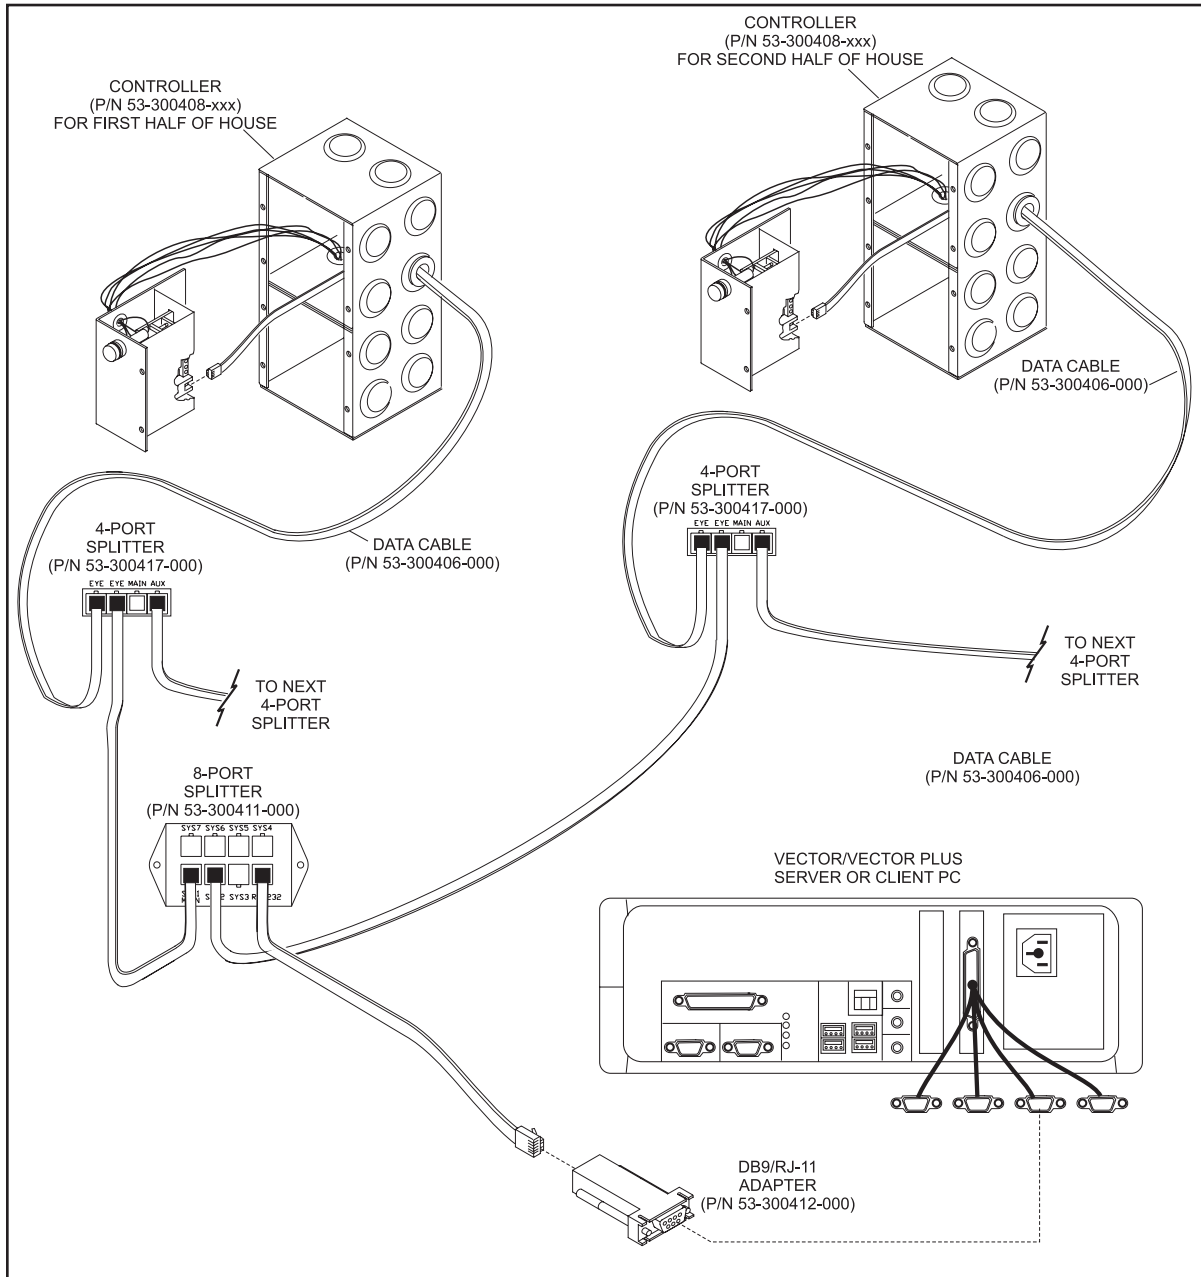

Figure 76
1. Connect the DB9/RJ-11 adapter (P/N 53-300412-000) to the communication port on the Vector/ Vector Plus server or client computer. Refer to *Figure 76*.